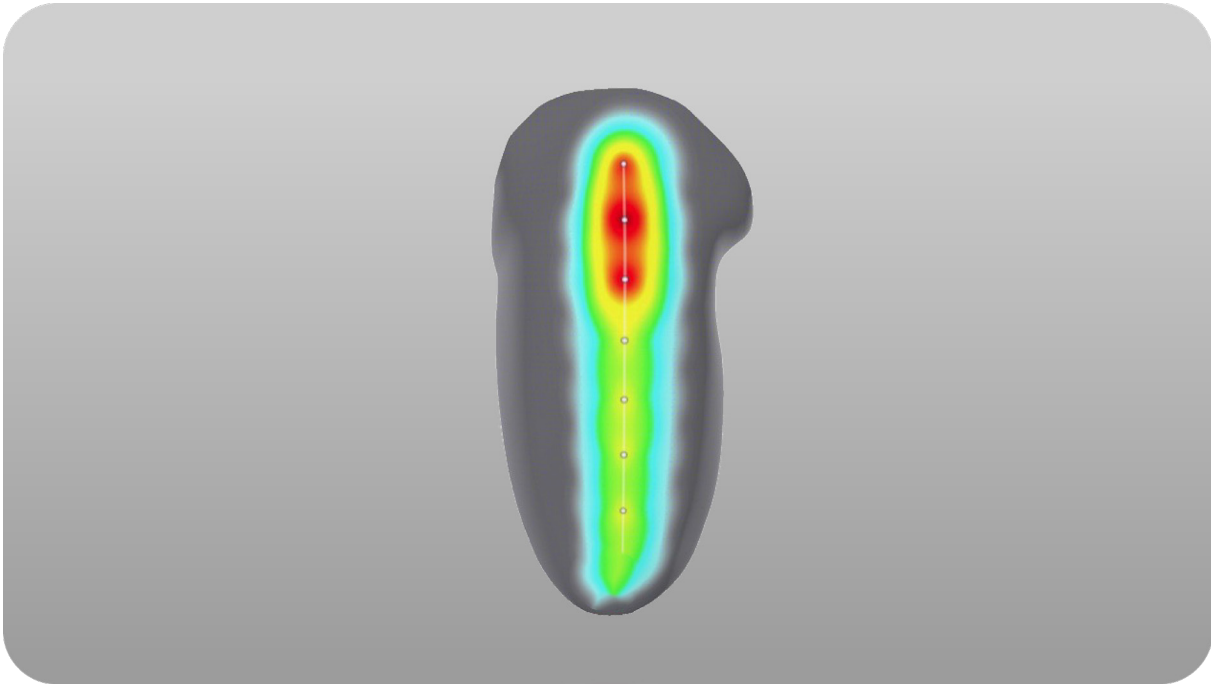

Figure 3: Example of localized pressure on the proximal-medial wall
- Localized red “hotspots” can often cue the practitioner into pressure points (Figure 3).